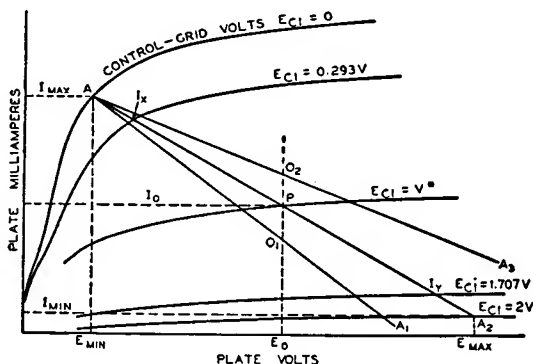

Fig. 22—Graphic calculations for class A amplifier using a pentode or beam power tube.
**Power output for a pentode or a beam power tube as a class A amplifier** can be calculated in much the same way as for triodes. The calculations can be made graphically from a special plate family of curves, as illustrated in Fig. 22.